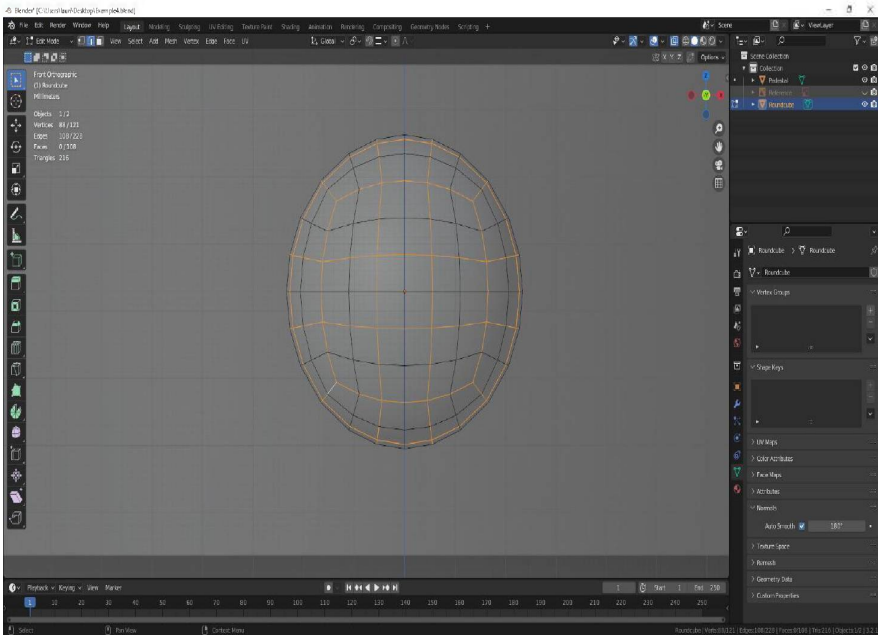

Figure 4.30: Every other edge selected for removal
7. To do this, first switch to Front Orthographic view and **Edge Select** mode, then ignoring the boundary loop on the open edge, loop-select every other interior edge loop (including the "corner" edges) by **ALT + clicking** each loop, as shown in *Figure 4.30*. Then, press **Delete** or **X**, and this time choose **Edge Loops**.